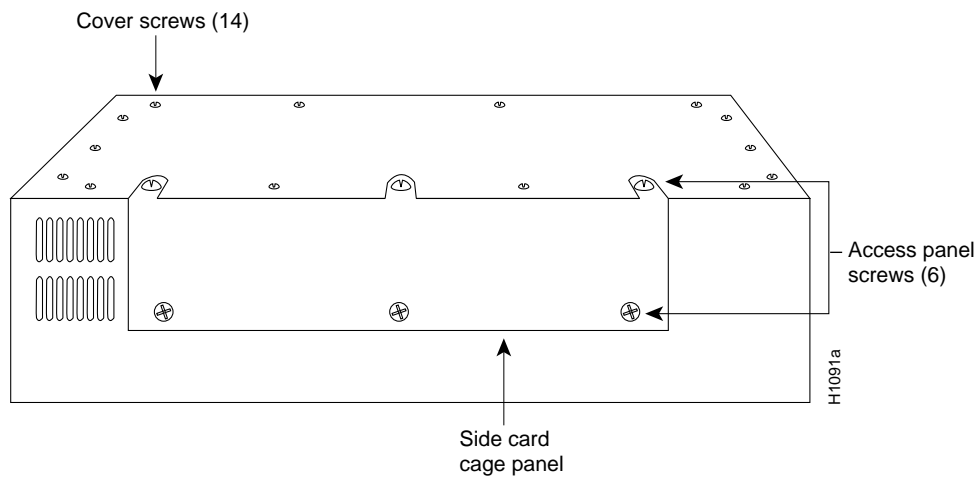

Figure 2 Screw Locations on the M Chassis Exterior
- Step 2** Locate the three slotted screws that secure the top of the card cage access panel. Use the flat-blade screwdriver to turn each of these screws 1/4 to 1/2 turn counterclockwise until the screws pop up. (See Figure 2.)